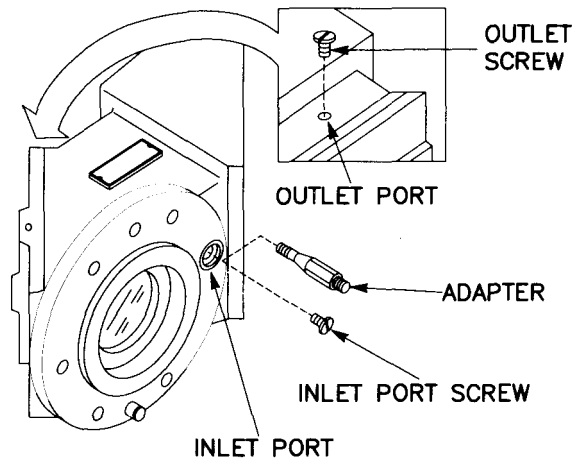

Figure 3-27 M42 Tank Periscope - Early Production
h. Tank Periscope, M42 Tank (fig. 3-27).
(1) Early Production (fig. 3-27).